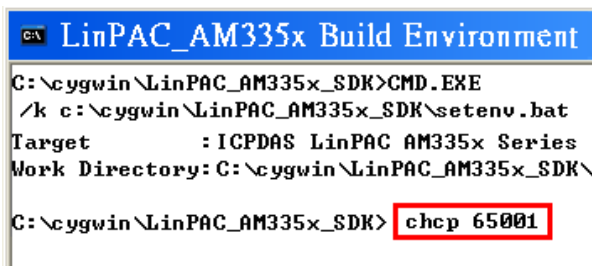

Fig. 3-23
- Type command: **chcp 65001** (Refer to Fig. 3-23 and Fig 3-24).